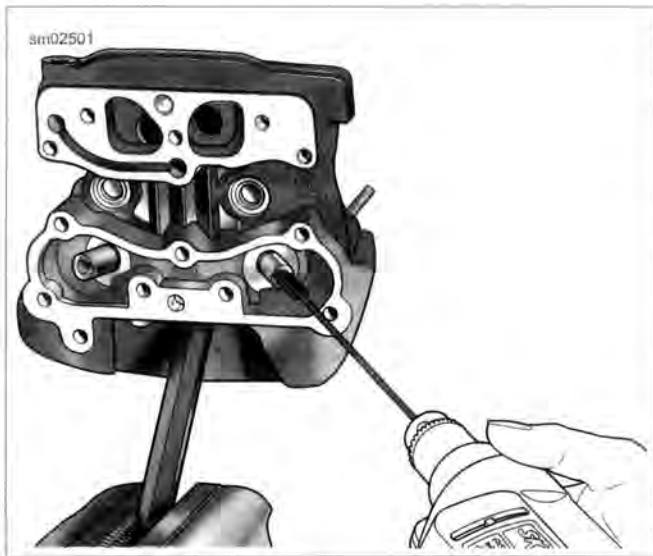

Figure 3-42. Honing Valve Guide Bore
8. See Figure 3-42.hone bore to finished size.